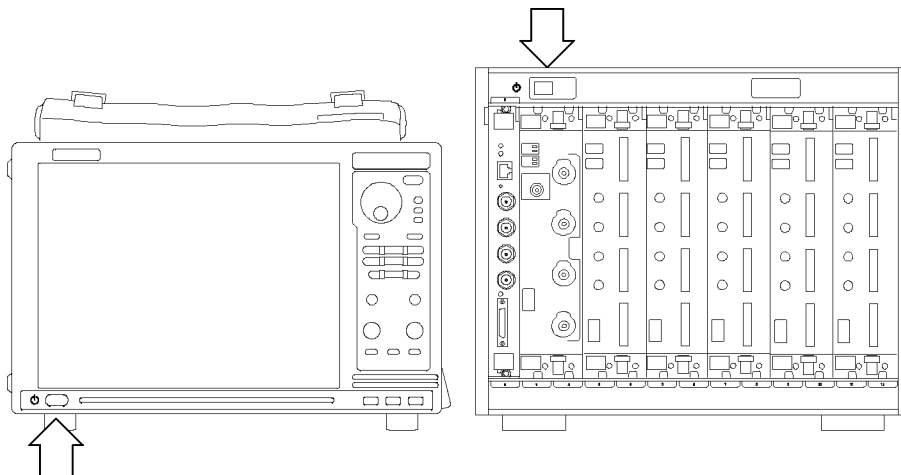

Figure 42: TLA7000 On/Standby switch locations
3. Press the On/Standby switch to turn on the mainframe. (See Figure 42.)